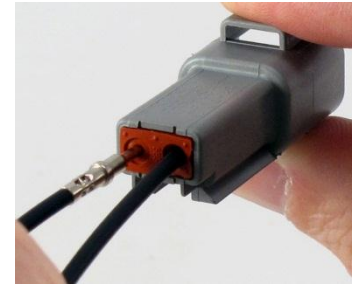

Figure 3
1.2. Removing Pin Contacts (Refer to Figure 3)